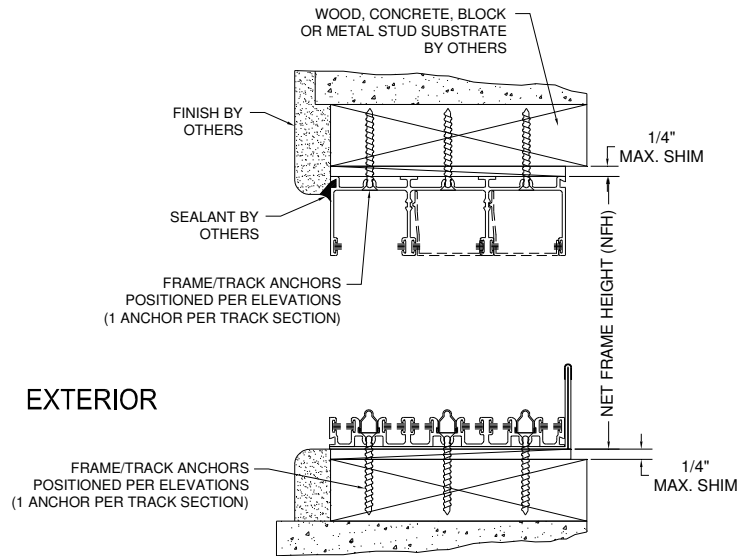

Figure 18:
- **Head & Sill** – Frame anchors spaced 6" from ends, center of the panel, and concentrated loads at the interlocker. One anchor required per track, at interlockers 3" spacing typical. Example: 3-Track system requires 3 anchors per location at both the head and sill (Figure 18 and 19).